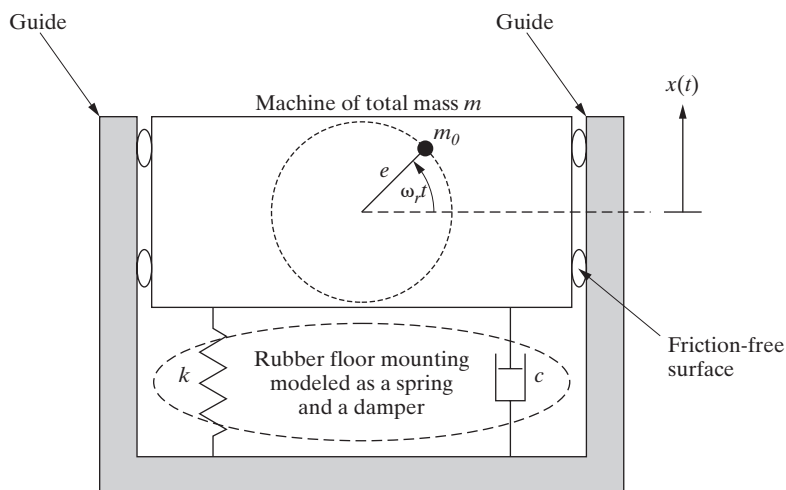

Figure P2.67 A typical unbalance machine problem.
- 2.67.** Consider a typical unbalanced machine problem as given in Figure P2.67 with a machine mass of 150 kg, a mount stiffness of 1000 kN/m and a damping value of 600 kg/s.